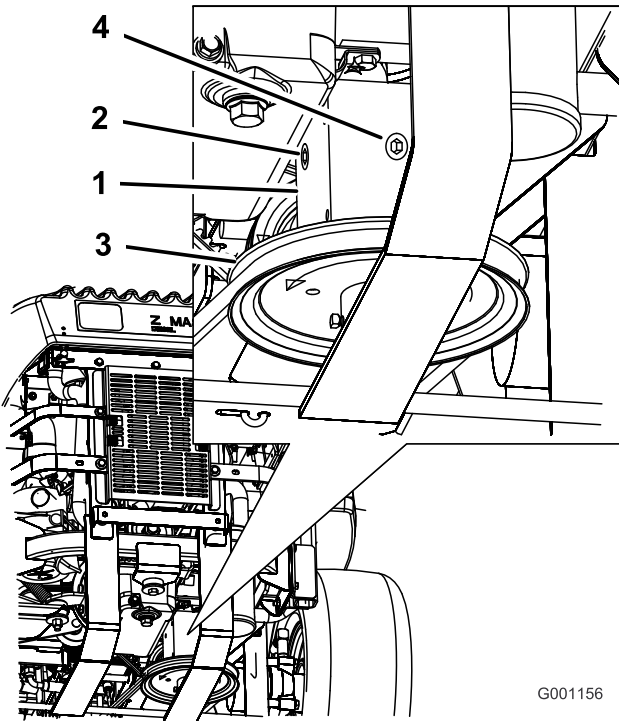

Figure 63
4. Remove the side or rear plug on the gear box. (Figure 63).